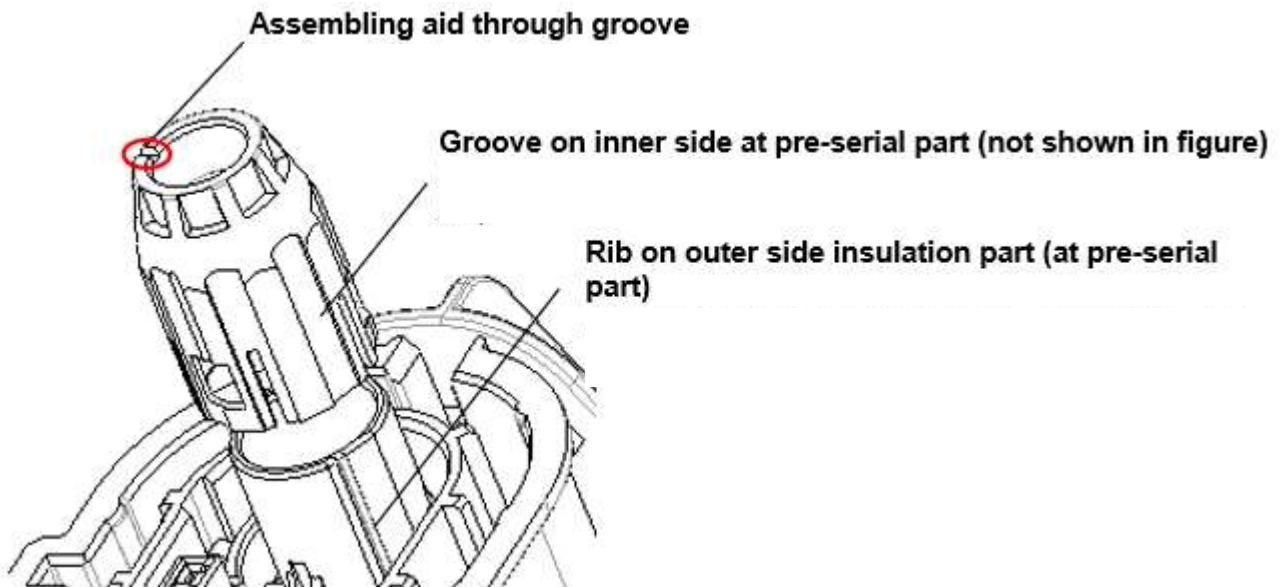
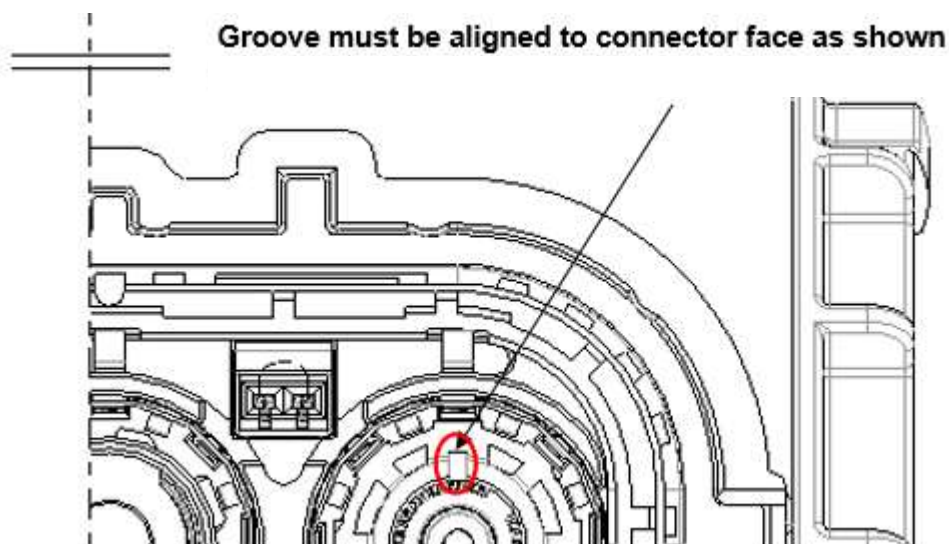

Figure 16: Finger protection cap aligned to insulation part
Figure 18: Visual Examination of assembled receptacle housing
With the groove in the top (red marked, shown on fig. 18 too) and groove and rib inside (only at pre-serial parts, see fig. 16 too) aligned, insert finger protection cap into the receptacle housing subassembly until it is fully locked by audible latching. Note to show the latching mechanism isolation part is shown in incorrect assembling position.
- Finger protection cap fully locked in place and correct orientation (check groove figure 18)